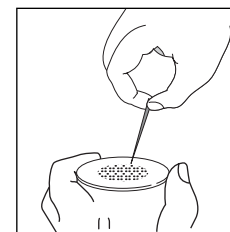

fig. 32
- sary, clean with a pin (fig. 32).